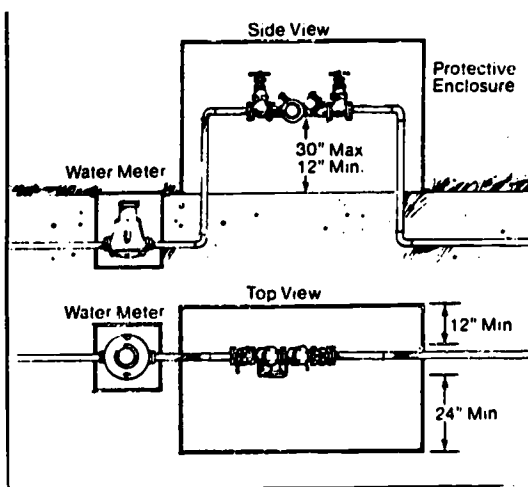

Figure 29. Installation of a Reduced Pressure Principle Device
REDUCED PRESSURE (RP) PRINCIPLE DEVICES. Figure 29 shows the proper installation of an RP device on a building service connection. The RP device can also be used for internal protection.